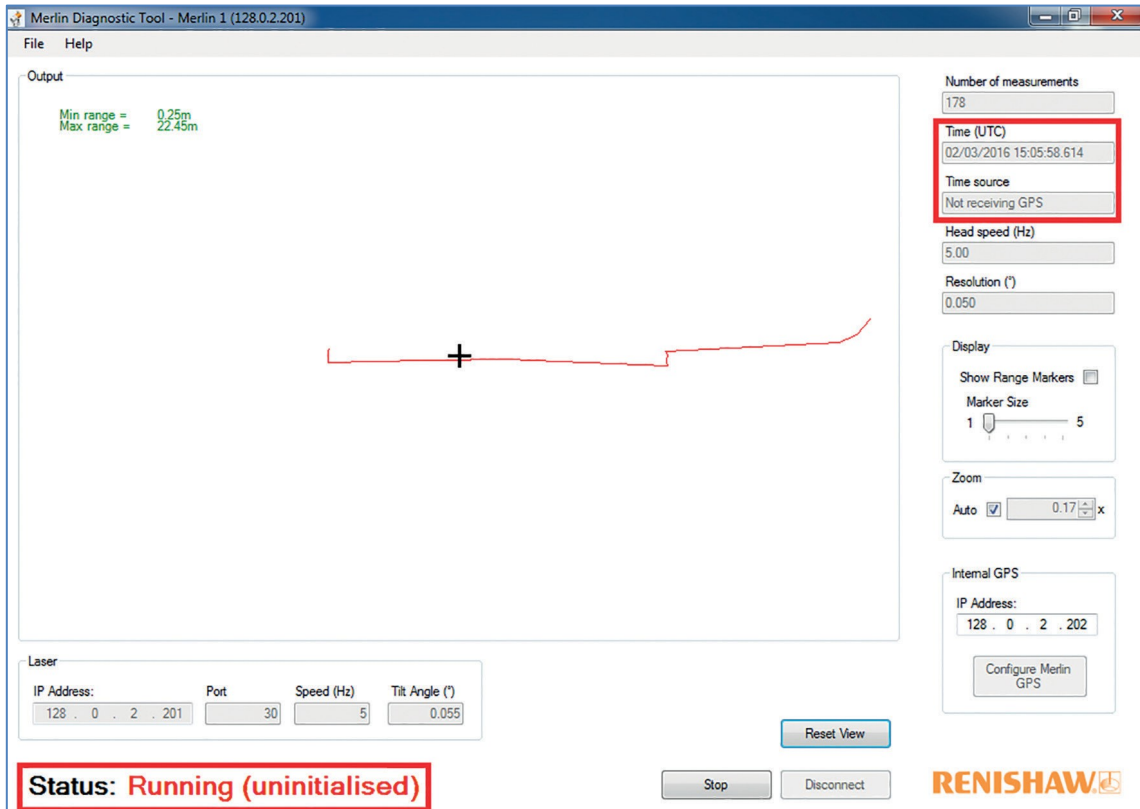

Figure 43 Status: Running (initialised) / Time (UTC) current
- If the Status has been displayed as **Running (uninitialised)** from initial power-up, the Time source is **Not Receiving GPS**, but the Time (UTC) is the current date and time, this indicates an issue with PPS. See Figure 43.